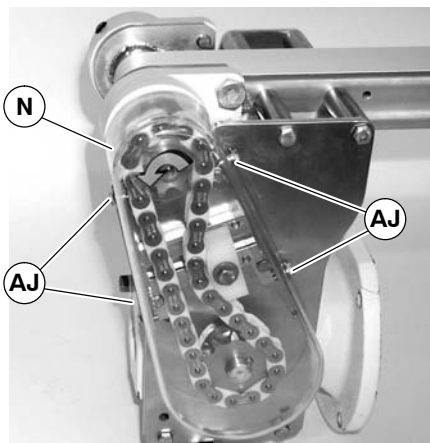

Figure 28
1. Loosen four screws (AJ of Figure 28) and remove cover (N).
NOTE: Do not over-tighten screws (AJ of Figure 28).
8. Install cover (N of Figure 28) and tighten four screws (AJ) to 35 in-lb (4 Nm).